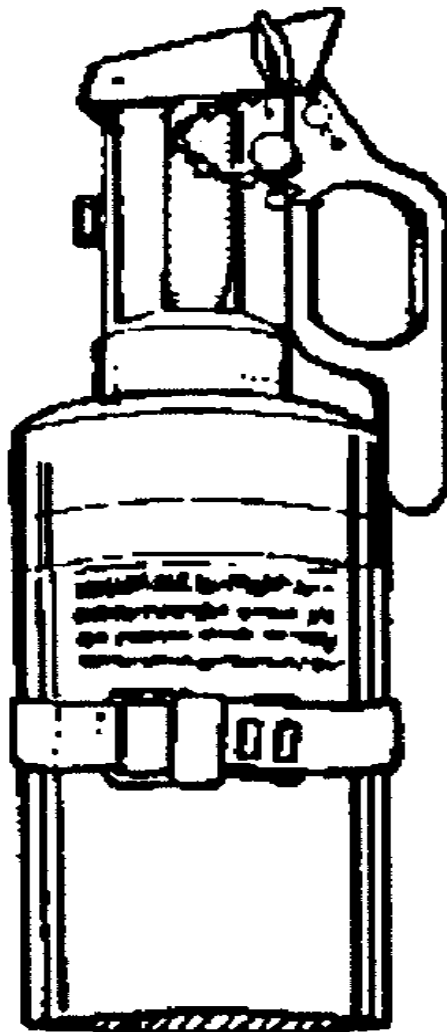

Figure 6-4 ABC-M11 Portable Decontaminating Apparatus
d. The M11 apparatus (Figure 6-4) decontaminates small areas, such as the steering wheel or other equipment that soldiers must touch. It is a steel container with aluminum spray-head assembly and a nitrogen gas cylinder that provides the pressure. It is filled with 1-1/3 quarts of DS2, which is sufficient for covering 135 square feet. The effective spray range is 6 to 8 feet. After each use, refill the M11 with DS2 and fit it with a new nitrogen cylinder, and it will be ready to use again. See TM 3-4230-204-12&P for additional information.